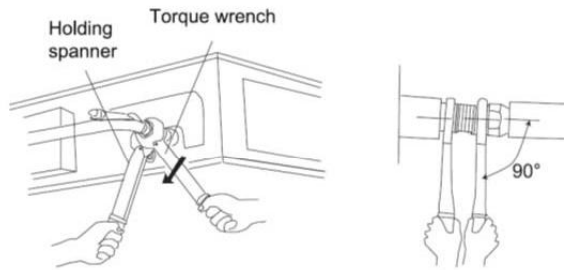

Fig. 4.13
2. When connecting the pipe to the unit or removing it from the unit, please use both the spanner and the torque wrench. (Fig. 4.13)